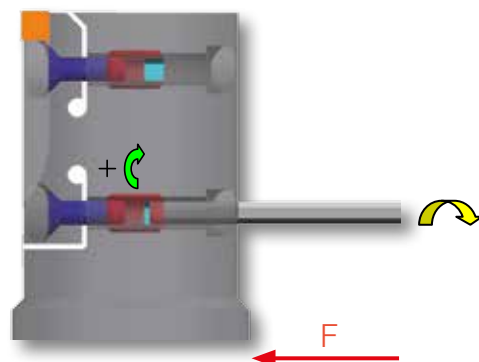

FIG. 2
- then lock adjusting screw 2 clockwise (see fig. 2)